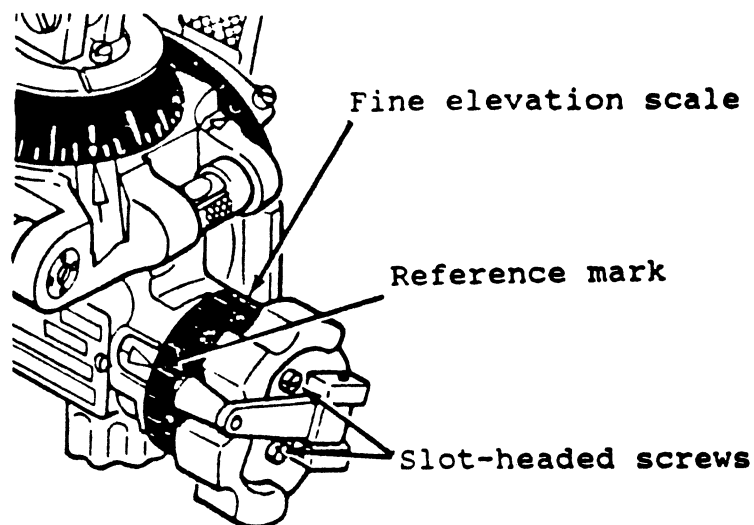

Fig 2-10. Adjusting elevation scale to read 0800 mils.
- (a) Loosen the two slot-headed screws on the outside of the elevation knob. Slip the fine elevation scale until the 0 mark on the scale aligns with the reference mark on the housing. Tighten the two screws to secure the scale (fig 2-10).